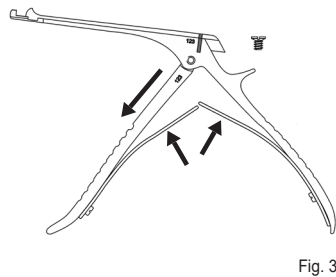

Fig. 3
- Bend the springs apart and remove the left branch downwards (fig. 3).